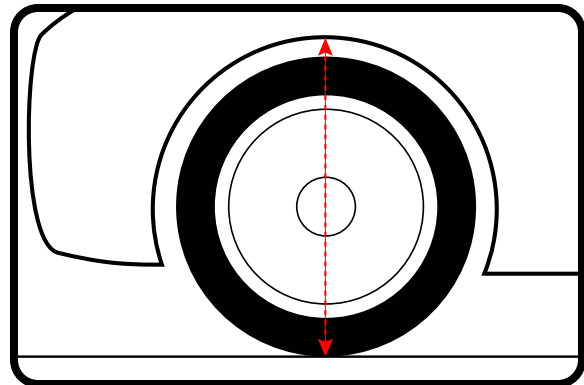

Figure 2
2. At the centerline of the wheel, take a measurement from the fender lip to the ground (Figure 2).